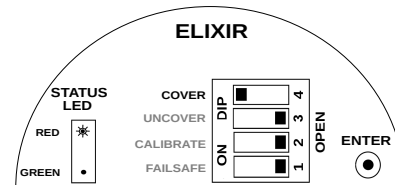

Figure 20: Cover Delay Switch Position
2. Set the COVER switch to CLOSE (Opposite of OPEN in a DIP switch) position as shown in Figure 20.